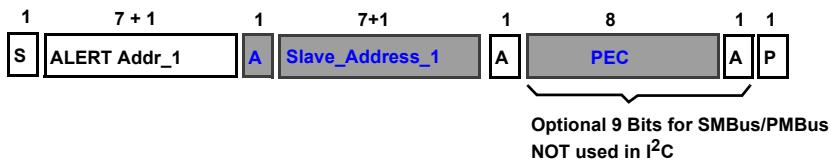

FIGURE 36. SMBus/PMBus/I2C PROTOCOL
The ISL6398 features SMBus, PMBus and I2C with programmable address via VRSEL\_ADDR pin, as in Table 13, while SMBus/PMBus includes an Alert# line and Packet Error Check (PEC) to ensure data properly transmitted. In addition, the output voltage, droop slope, enable, operating phase number, and overvoltage setpoint can be written and read via this bus, as summarized in Table 14. Input, output, fault, and temperature telemetries can be read as summarized in Table 15. For proper operation, users should follow the SMBus, PMBus, and I2C protocol, as shown Figure 36. Note that STOP (P) bit is NOT allowed before the repeated START condition when “reading” contents of register, as shown in Figure 36.